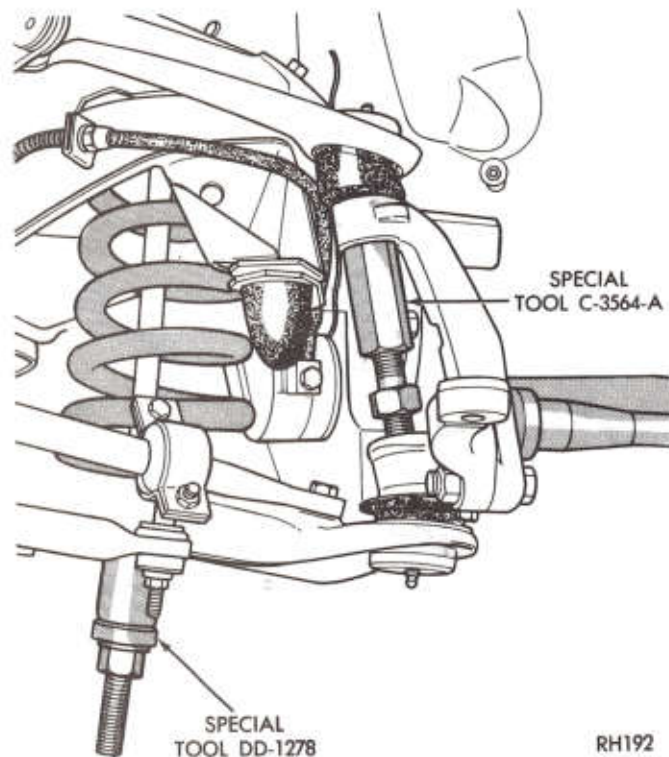

Fig. 4—Ball Joint Breaker and Spring Compressor Tools Installed
- (1) Raise vehicle and install jack stands and lower hoist. Remove wheel and tire assembly.
- (2) Remove caliper retainer. Remove caliper from disc by sliding out and away from disc. Hang caliper out of the way. **Do not let caliper hang by hydraulic hose.**
- (3) Remove shock absorber upper nut and retainer, and two lower mounting bolts and remove shock absorber.
- (4) Remove spring pin from strut (bushing end), and loosen retaining nut. Disconnect sway bar at link (if so equipped).
- (5) Install spring compressor Tool DD-1278, tighten finger tight and then back off 1/2 turn.
- (6) Remove cotter keys and ball joint nuts.
- (7) Install ball joint breakers Tool C-3564-A, turn threaded portion of the tool to lock securely against the lower stud (Fig. 4). Spread the tool enough to place the lower stud under pressure then strike the steering knuckle sharply with a hammer to loosen the stud. **Do not attempt to force the stud out of the knuckle with the tool alone.**
- (8) Remove ball joint breaker tool. Slowly loosen the coil spring compressor until all tension is relieved from the spring. Remove spring compressor and spring.